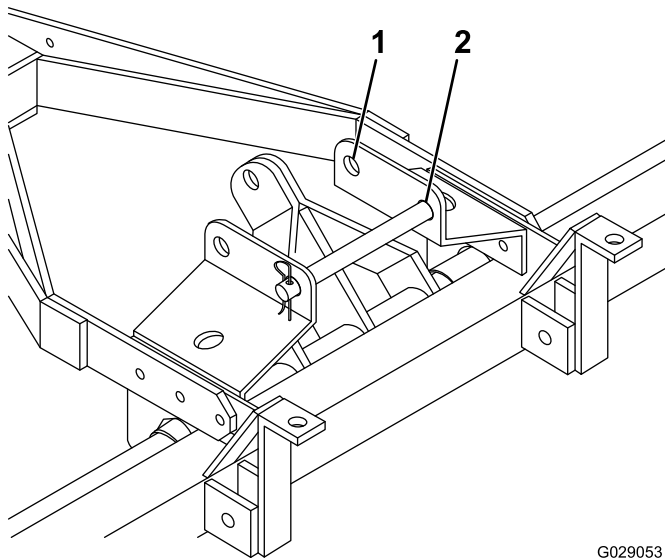

Figure 5
6. When transporting model 44850, place the lock pin in the front hole (Figure 5).
1. Move the lock pin to the rear (aerating) position (Figure 5).